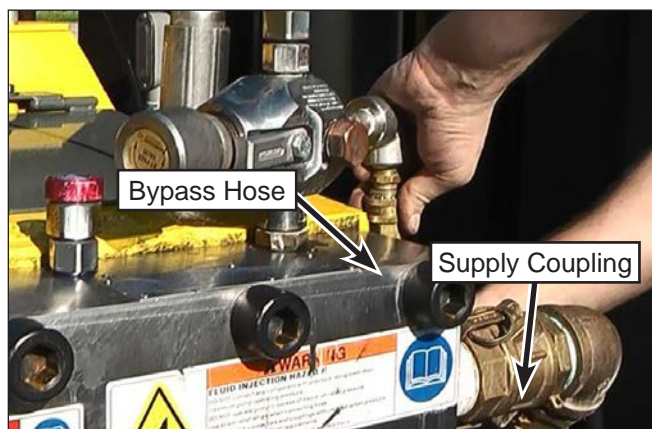

Figure 62: Line Removal.
3. Disconnect the bypass drain hose and the supply coupling from the manifold (Figure 62).